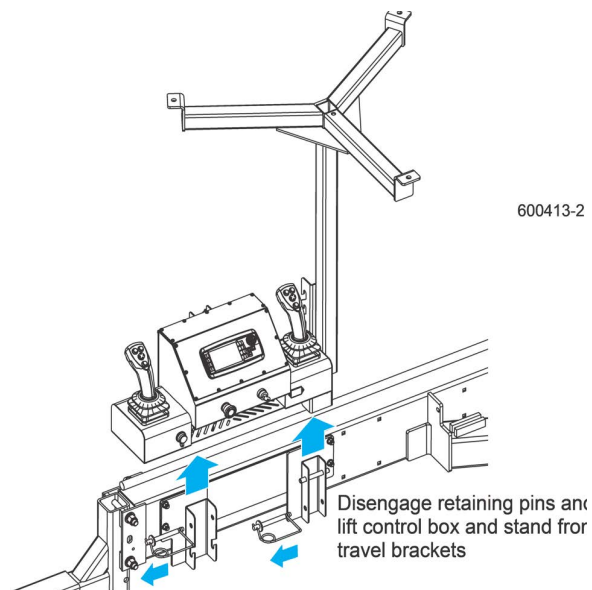

FIG. 3-1
6. Remove the retaining pin securing the control stand to the travel bracket. See FIG. 3-1.
8. Remove the retaining pin securing the control box to the travel bracket. See FIG. 3-1.